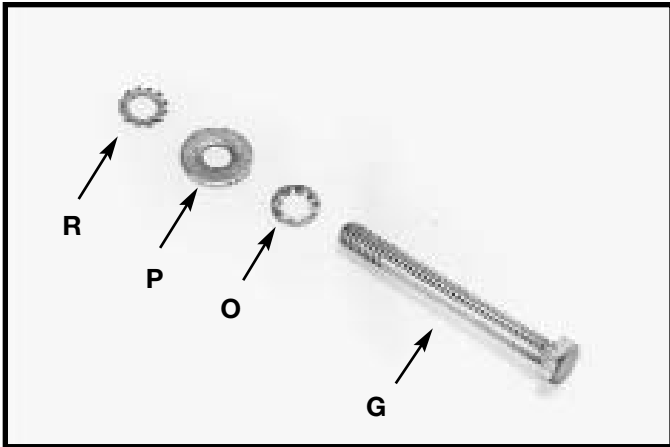

Fig. 10
3. Locate the 1/4-20x2fi" hex head screw (G) Fig. 10. Place the 1/4" internal tooth lockwasher (O) M6.4 flat washer (P) and the 1/4" external tooth lockwasher (R) on the screw (G).